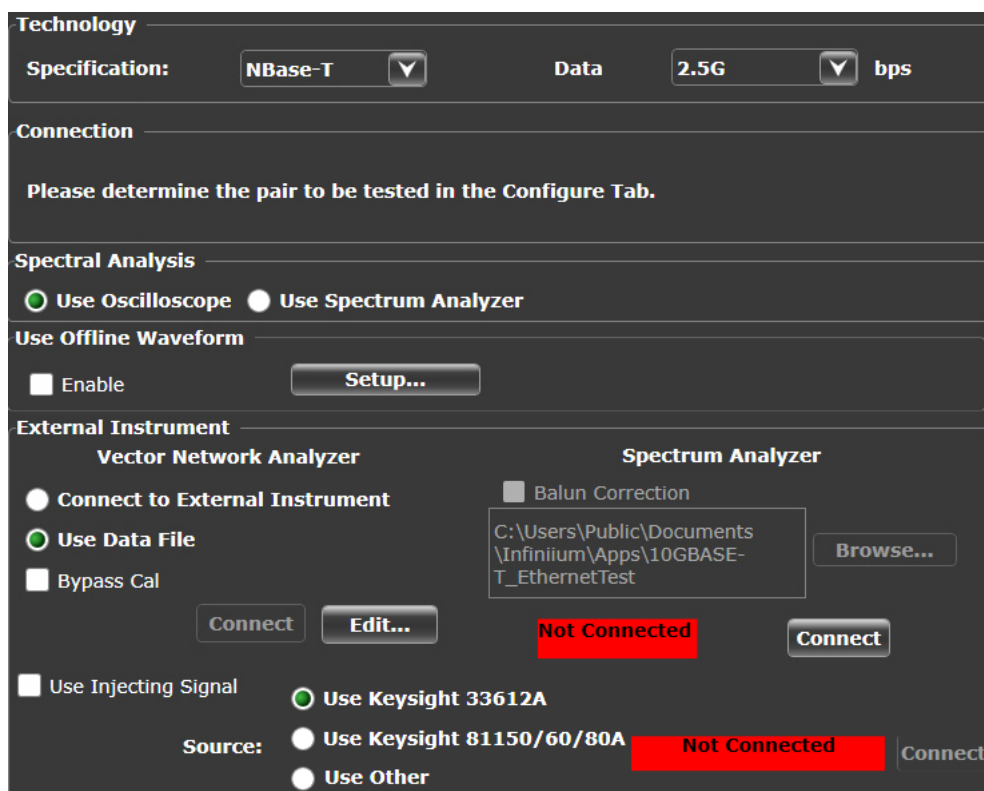

Figure 36 Set Up tab settings for Transmitter Nonlinear Distortion tests using Oscilloscope
- 11 Select the **Use Injecting Signal** check-box, as shown in Figure 36, so that the Test Application is able to connect to the waveform generator to run the Transmitter Nonlinear Distortion tests.